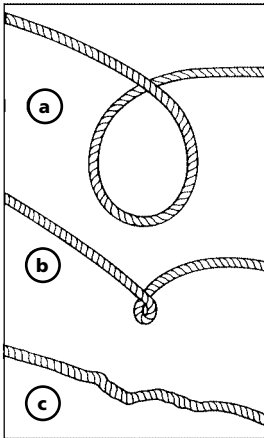

Figure 11
3. PREVENT KINKS BEFORE THEY OCCUR. (See Figure 11.)